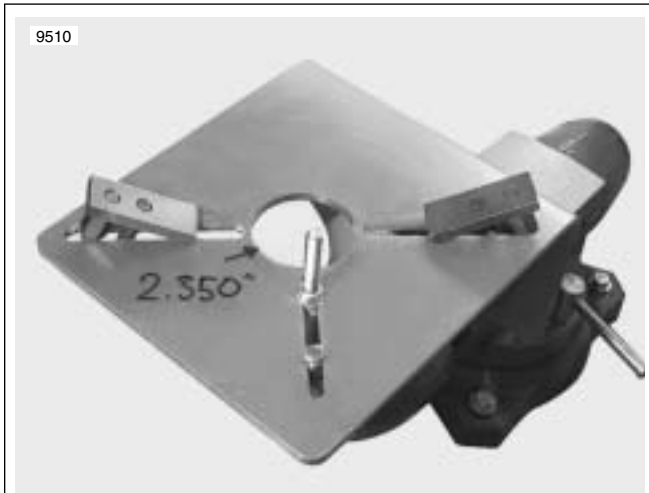

Figure 3-211. Flywheel Support Fixture
20. See Figure 3-211. FLYWHEEL SUPPORT FIXTURE (HD-44358) can be modified to hold crankshaft when removing or installing primary drive gear. Open bore of center hole to 59.7 mm (2.350 in.).